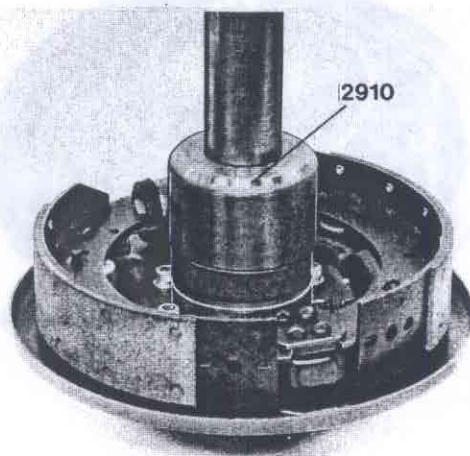

Fig. 77-18. Installing the outer sealing ring
- Press on the outer sealing ring with sleeve 2910, see Fig. 77-18.
- Press on the outer sealing ring with sleeve 2910, Fig. 77-18.